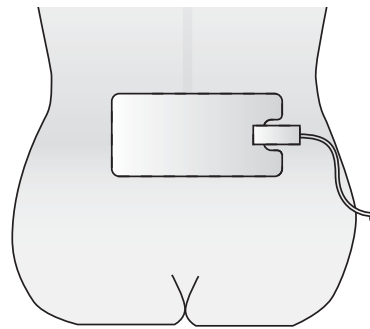

**Figure 4-5.** Carefully Remove Return Electrode Backing.
2. Slowly remove plastic backing to expose conductive/adhesive area without creasing the return electrode surface (Figure 4-5). Discard the plastic backing.